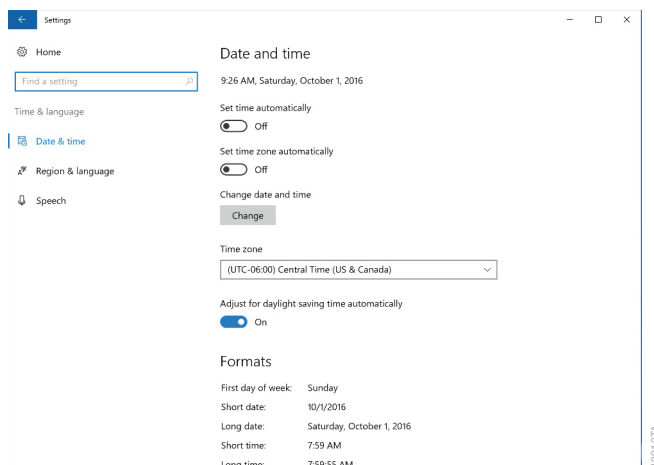

Figure 99. ‘Time & language’ screen. Settings for Date and time can be modified from this screen.
- c. Touch the **Time & language** button on the ‘Windows Settings’ screen to open the ‘Time & language’ screen (Figure 99).